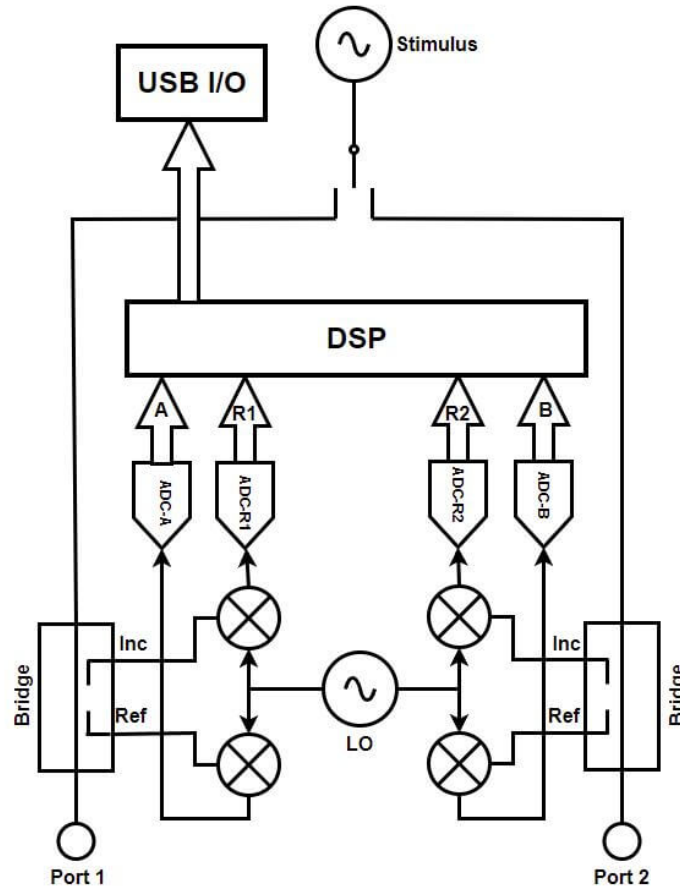

Figure 1.2: Block diagram of a simple VNA, [4]
The internal working of a general simple VNA is shown in figure 1.2. An RF stimulus coming from port 1 is provided to a DuT, which is connected between port 1 and port 2 (not shown in the figure). The stimulus is passed through a bridge (directional coupler), which splits the EMW in forward- and backward-going waves, which takes this signal as reference (Ref). This reference signal is demodulated into a lower frequency IF signal (intermediate frequency) using a mixer and a local oscillator (LO). The intermediate frequency is determined by the difference in frequency of the LO and the incoming signal. The reflected EMW coming from the DuT will be split off as the "Inc"-signal by the bridge at port 1, and the transmitted wave as the "Inc"-signal at port 2. They then go through the same process as the reference signal, to obtain two more IF signals. The same process can also be done with a RF stimulus coming from port 2, producing another reference, transmission and reflection IF signal, to study the effects of the DuT in two directions by finding other S-parameters. It must be noted that some of the functionality of the general VNA of figure 1.2 are omitted in the VNA of this project, as will become clear from the functional requirements in section 1.4.